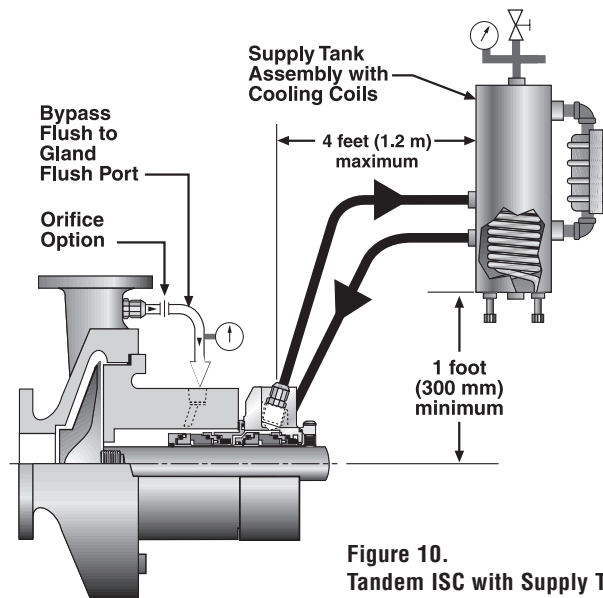

Figure 10.
8.3 For running a dual nonpressurized seal (tandem seal), supply a clean compatible buffer fluid to the inlet port at a pressure below the seal chamber pressure (See Figure 10). The pressure in the seal chamber must not exceed the recommended maximum pressure. Flowserve can supply information on buffer fluid flow requirements based on seal size, product temperature, buffer fluid characteristics, and shaft speed.